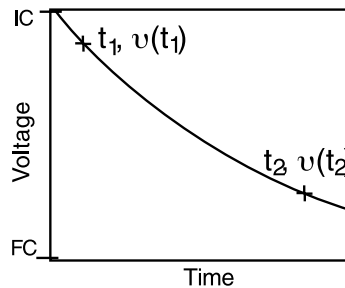

Figure 4
- b. Method 2 Equation 1 can be used to solve for the time constant T_c by measuring the voltage $v_c(t)$ at two different times, as shown in Fig. 4. Moving the last term to the left of the equal sign and dividing these two measurements yields: